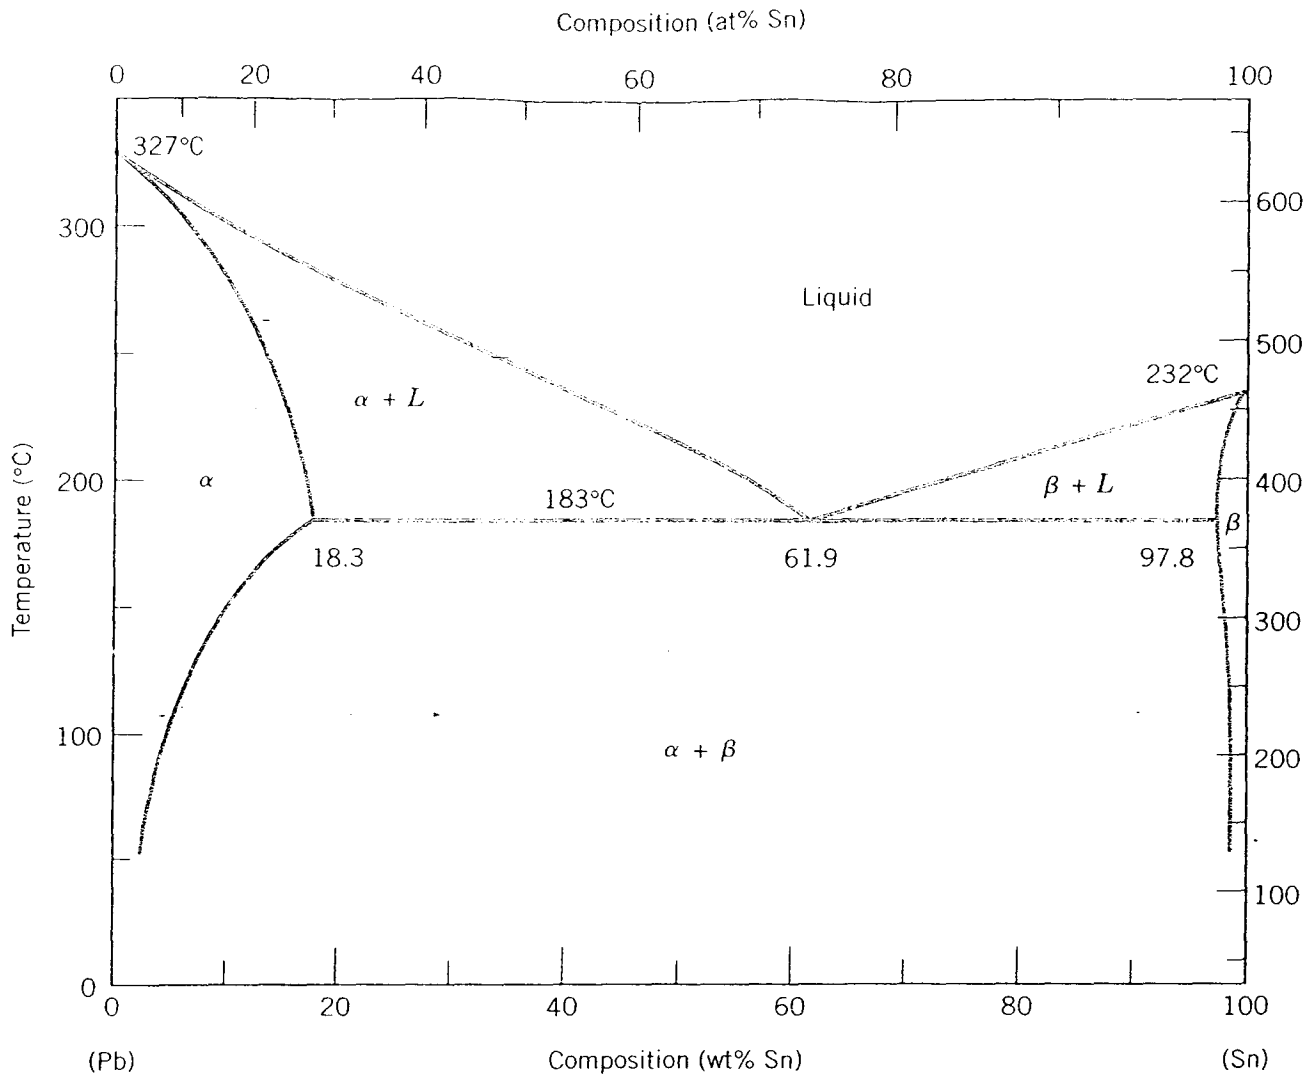

Figure 5
4. For the following questions, refer Pb-Sn phase diagram in Figure 5.